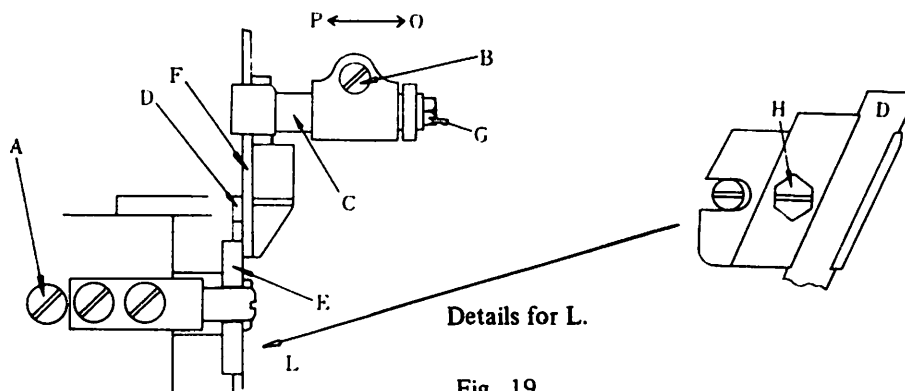

Fig. 19
- (1) To increase the bight width (See Fig. 19)
- (2) To decrease Bight Width (See Fig. 19)